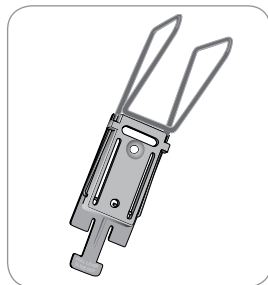

Fig. 11 - Wire Bracket
1. Use wire bracket (Cat. 8276) for head or footboard mounting (fig. 11).